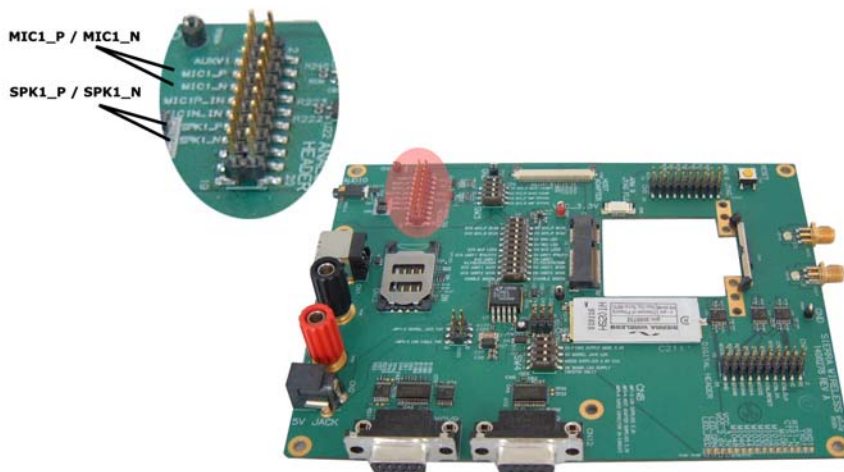

Figure 8-1: Mini Card Dev Kit showing MIC/SPK pins.
- ii. Connect the analyzer input signal to the SPK1\_P (positive) and SPK1\_N (negative) header pins located at CN18 on the Dev Kit (see Figure 8-1 on page 87). For additional details concerning use of the Dev Kit, see the *PCI Express Mini Card Dev Kit Quick Start Guide (Document 2130705)*.